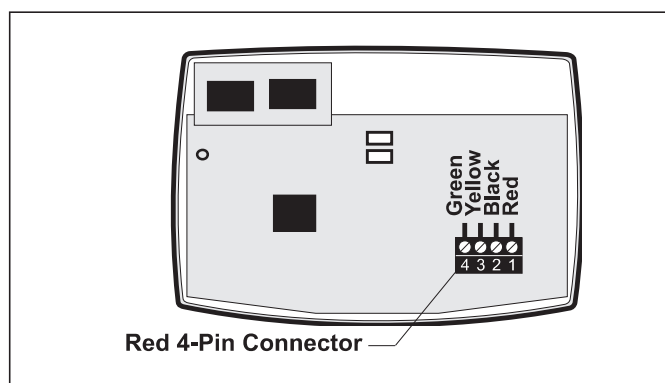

Figure 24. All Button Control Panel PCB
- Drill $\frac{1}{4}$ " holes at the three (3) mounting screw marks and insert the plastic anchors. Drill a $1\frac{1}{4}$ " (min.) to 2" (max.) hole for cable access.
- Remove the red, 4-pin terminal bar from the control panel PCB. Connect the 4 conductor cable to the red, 4-pin terminal bar (see Figure 24). Reconnect the red, 4-pin terminal bar back to the Control Panel PCB.